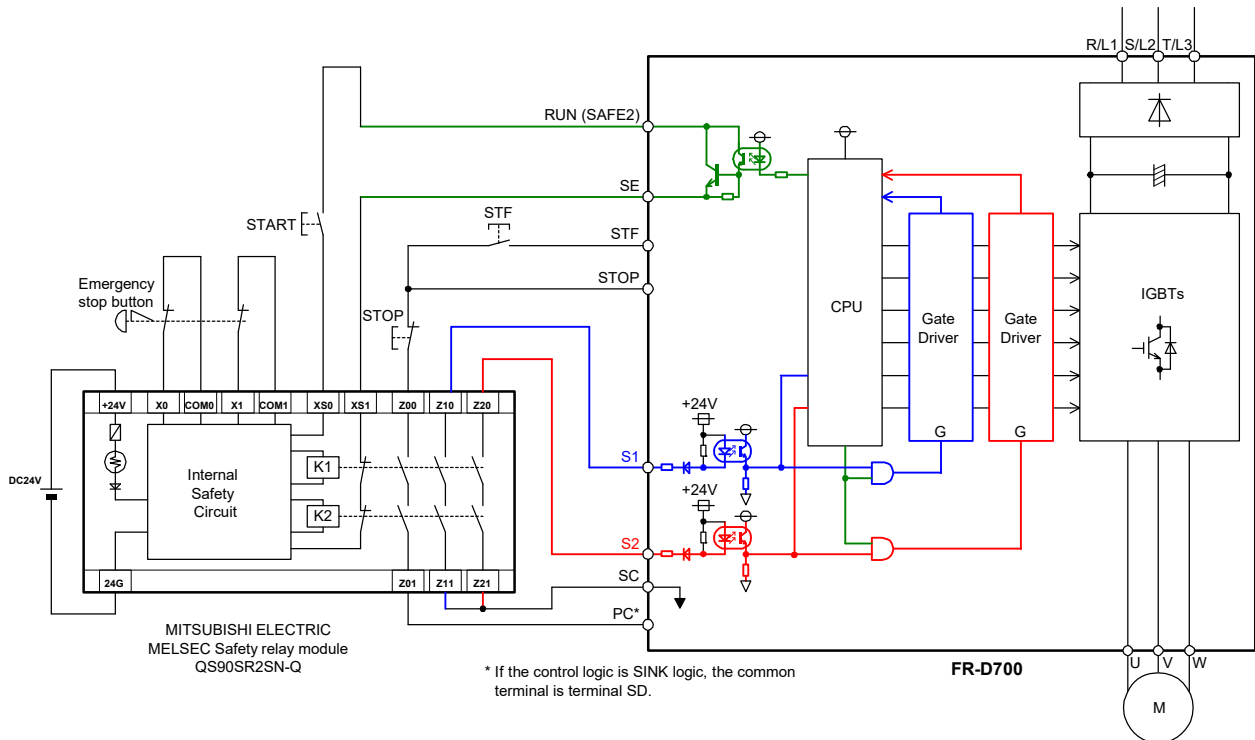

Fig.6 Safety system example 2 – STOP synchronous with emergency stop button and fault detection through RUN output.
- In the above Fig.6, wired example 2, in the event of reset of 'safe-condition' the motor rotation will not occur until STF is pressed.